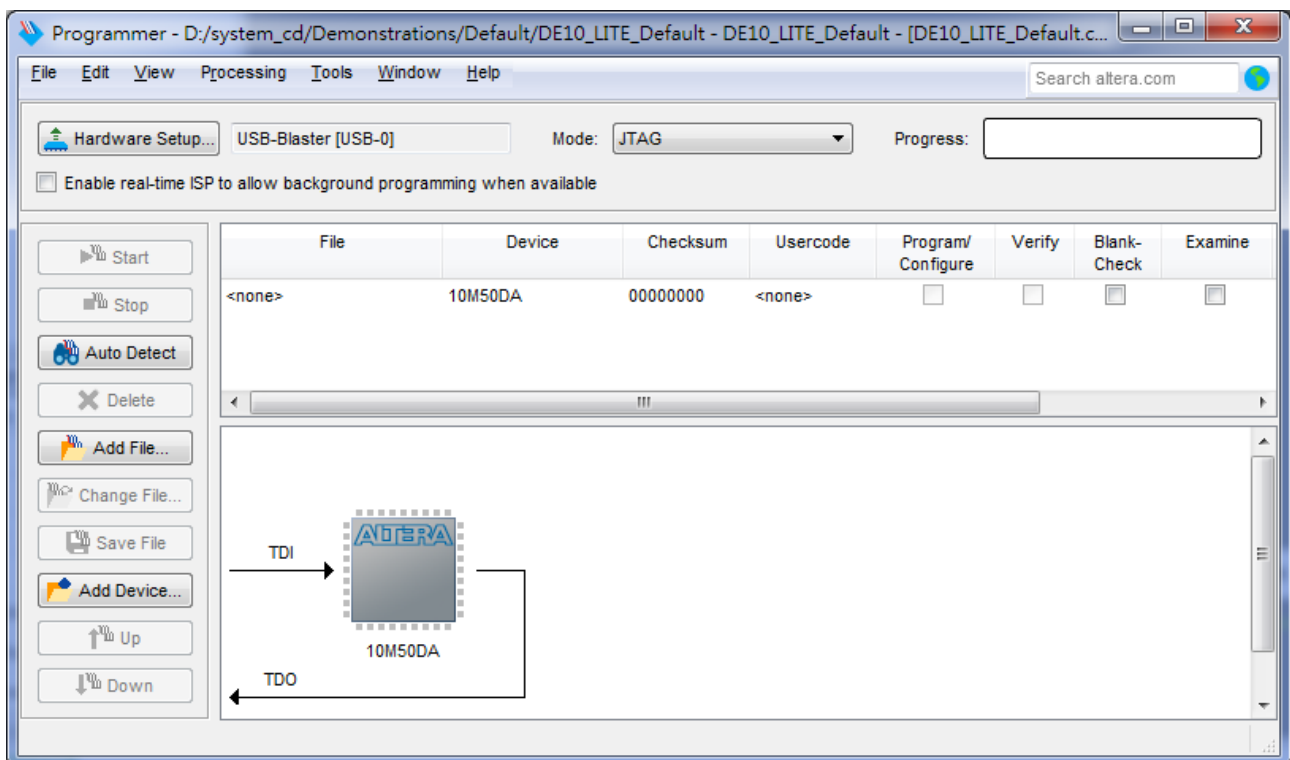

Figure 3-6 FPGA detected in Quartus II programmer
6. FPGA is detected, as shown in **Figure 3-6**.